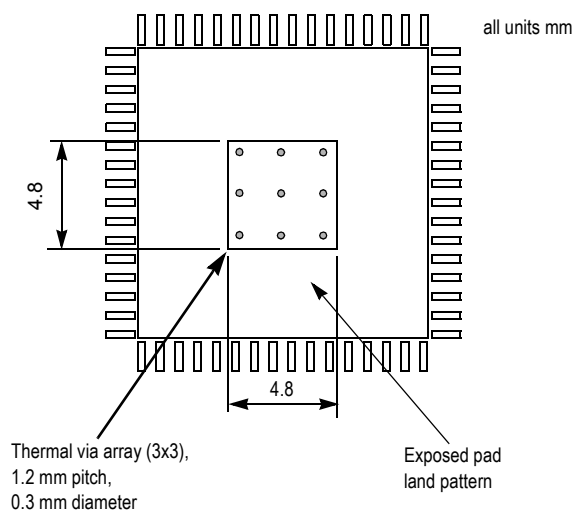

Figure 6. Recommended Thermal Land Pattern
The MC100ES6221 uses a thermally enhanced exposed pad (EP) 52 lead LQFP package. The package is molded so that the lead frame is exposed at the surface of the package bottom side. The exposed metal pad will provide the low thermal impedance that supports the power consumption of the MC100ES6221 high-speed bipolar integrated circuit and eases the power management task for the system design. A thermal land pattern on the printed circuit board and thermal vias are recommended in order to take advantage of the enhanced thermal capabilities of the MC100ES6221. Direct soldering of the exposed pad to the thermal land will provide an efficient thermal path. In multilayer board designs, thermal vias thermally connect the exposed pad to internal copper planes. Number of vias, spacing, via diameters and land pattern design depend on the application and the amount of heat to be removed from the package. A nine thermal via array, arranged in a 3 x 3 array and using a 1.2 mm pitch in the center of the thermal land is a requirement for MC100ES6221 applications on multi-layer boards. The recommended thermal land design comprises a 3 x 3 thermal via array as shown in Figure 6, providing an efficient heat removal path.